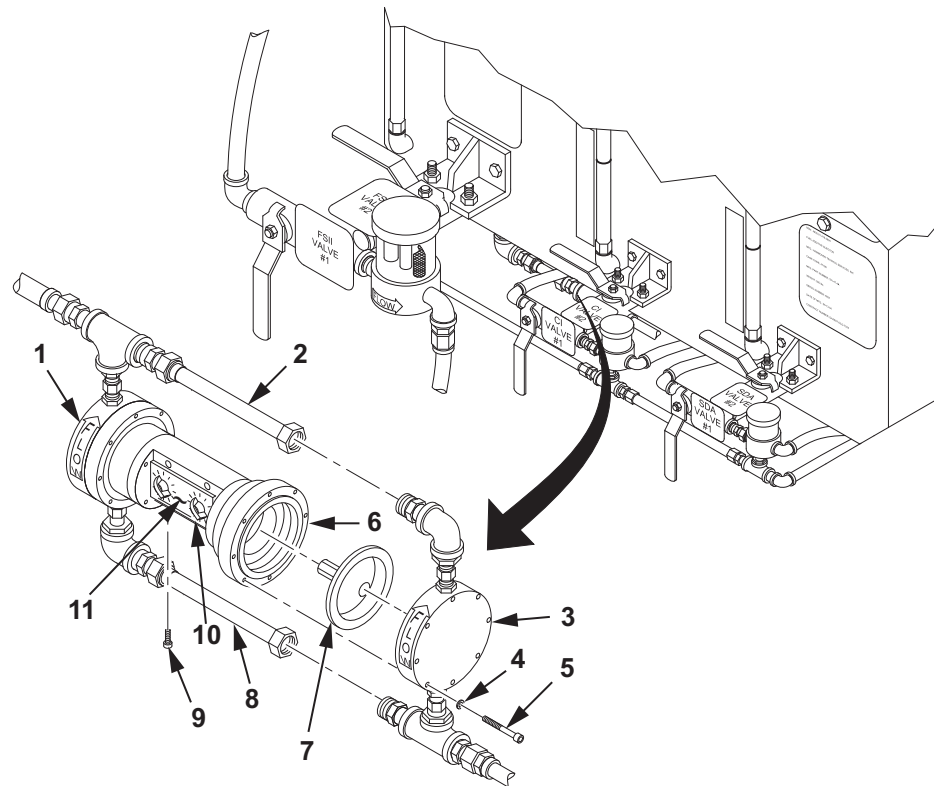

Figure 1. FSII Injection Pump Diaphragm Removal.
1. Place drain pan below FSII injection pump (Figure 1, Item 1).
2. Loosen discharge tube (Figure 1, Item 2) from fluid end cap assembly (Figure 1, Item 3).
3. Loosen suction tube (Figure 1, Item 8) from fluid end cap assembly (Figure 1, Item 3).
4. Remove eight screws (Figure 1, Item 5) and lockwashers (Figure 1, Item 4) from fluid end cap assembly (Figure 1, Item 3). Discard lockwashers (Figure 1, Item 4).
5. Remove fluid end cap assembly (Figure 1, Item 3) from FSII injection pump (Figure 1, Item 1).
6. Loosen setscrew (Figure 1, Item 9) from beneath FSII injection pump (Figure 1, Item 1).
7. Mark position of stroke adjustment knob (Figure 1, Item 10) on power frame cover (Figure 1, Item 11).
8. Rotate stroke adjustment knob (Figure 1, Item 10) counterclockwise to the zero position until FSII pump diaphragm (Figure 1, Item 7) has cleared adapter ring (Figure 1, Item 6).
9. Remove FSII pump diaphragm (Figure 1, Item 7) by rotating counterclockwise. Discard FSII pump diaphragm (Figure 1, Item 7).